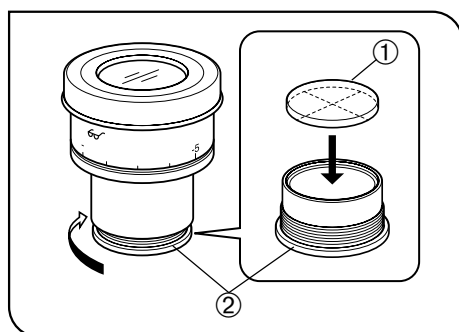

Fig. 15
**4 Mounting the Eyepiece Micrometer Disks (Fig. 15)**
Following Fig. 15, turn the built-in micrometer-mounting frame ② to the arrow direction to remove it from the eyepiece and place a micrometer disk ① into the mounting frame so that the surface with the model indication faces downward.